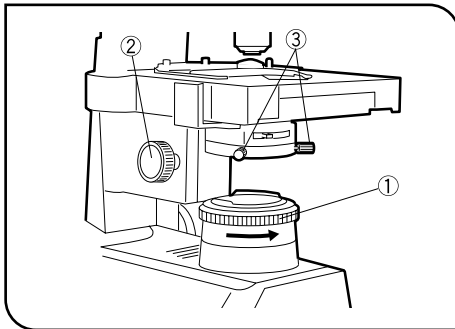

Fig. 21
### 1 Centering the Field Iris Diaphragm (Figs. 21 & 22)
1. With the 10X objective engaged and the specimen brought into focus, turn the field iris diaphragm ring ① counterclockwise to stop down the diaphragm to near its minimum size.
2. Turn the condenser height adjustment knob ② to bring the field iris diaphragm image into focus.
3. Rotate the two condenser centering knobs ③ to adjust so that the field iris diaphragm image is centered in the eyepiece field of view. (Figs. 21 & 22)